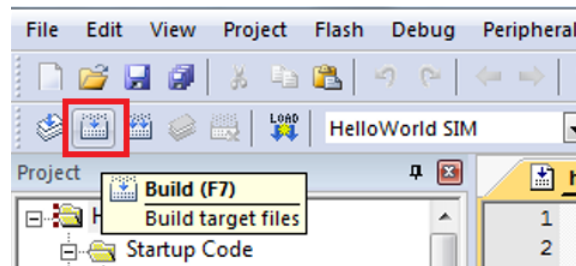

Figure 2.5: Keil IDE: Build Button
2. Build the HelloWorld SIM Target by pressing the Build button or F7 (see Figure 2.5).
2. Build the HelloWorld RAM Target by pressing the Build button or F7 (see Figure 2.5).